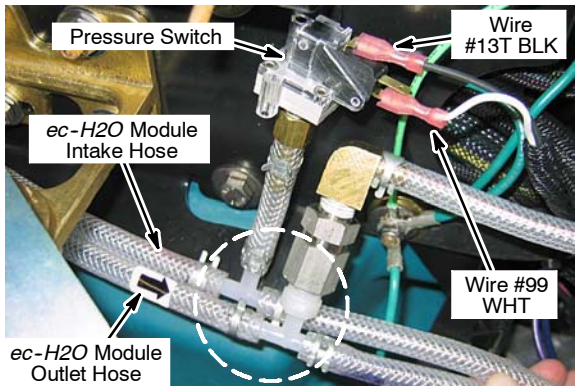

Fig. 28
9. Using two hose clamps [p/n 603654], connect the *ec-H2O* solution hose assembly (from step 7) to the *ec-H2O* module hoses as shown (Figure 28).
Connect wires #13T BLK/#99 WHT from the routed *ec-H2O* wire harness to the pressure switch as shown (Figure 28).